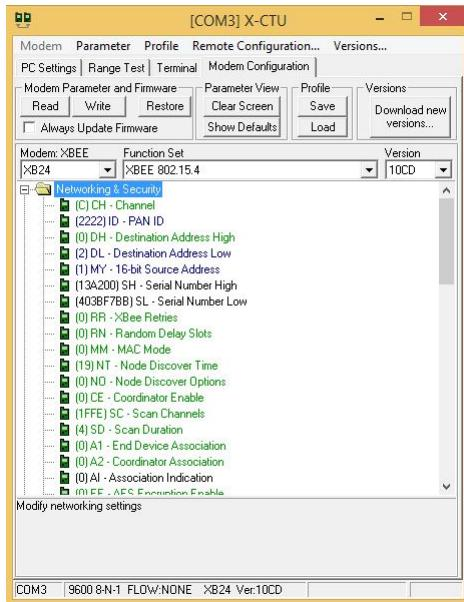

Figure 2.9: Step 3 - Configuring the Modem parameters for XBee module 1
The parameters for both the XBee modules have to be set. Set the Channel and PAN ID of both the XBee modules as same. Set Destination Address High(DH) for both the modules as 0. The Destination Address Low(DL) and 16-bit Source Address(MY) have to be set such that the DL of one module is the MY of the other and MY of one module is the DL of other for both the modules. Here DL=2, MY=1 was used for the first module, and vice-versa for the other as shown in the figure. Configuration of the 2 Zigbee modules can be done one after another or simultaneously by launching 2 instances of X-CTU and connecting both the modules with the PC. Following these steps will configure the X-Bee modules in unicast mode, i.e. simple one-to-one wireless communication. It is recommended not to change the rest of the parameters and leave them at their default values. However, if you are an advanced user, you may tinker with their values if you know what you are doing. Shown in figures 2.9 and 2.10 for both the modules.